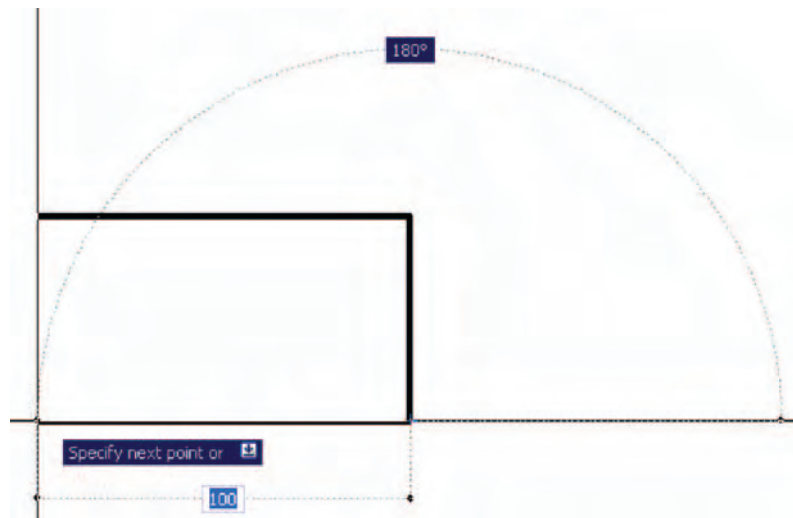

Fig. 3.31 Dynamic Input – first example – Polyline – the horizontal distance
7. Drag the cursor to the left until the required horizontal distance is showing and *right-click* (Fig. 3.31).